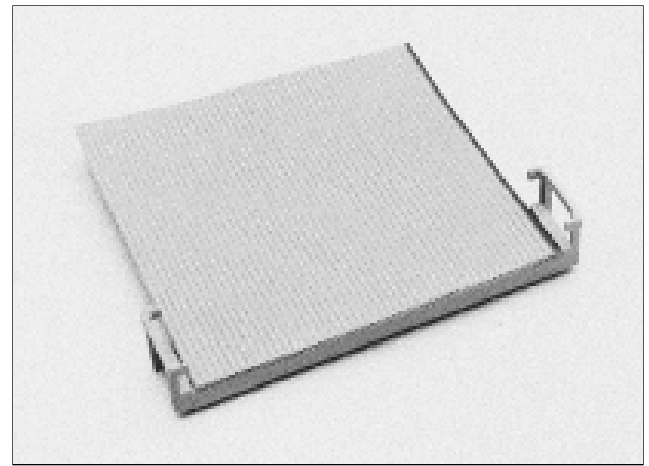

Figure 6
- b. Cable end is flush with the cover for end terminations or perpendicular to cover for midspan terminations. (See Figure 6)